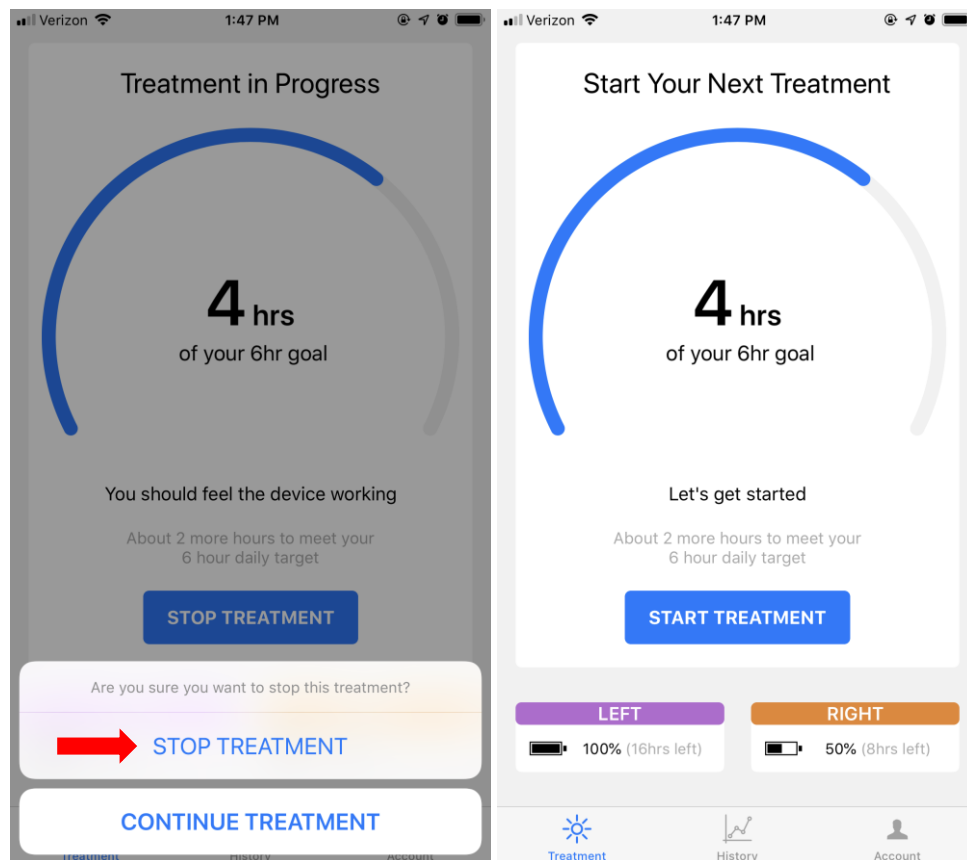

Figure 13. “STOP TREATMENT” and “Start Your Next Treatment” screens
3. Touch “STOP TREATMENT” icon to discontinue therapy **Figure 10b** or **Figure 13**.